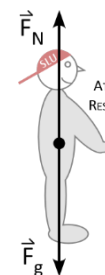

Figure 3: At Rest
- In your journal, draw a *large* FBD for the static case at rest in the lab (Figure 3); try to draw the force vectors to the same scale relative to each other. Which of these two forces does the scale measure? Which force will change as you ride the elevator?